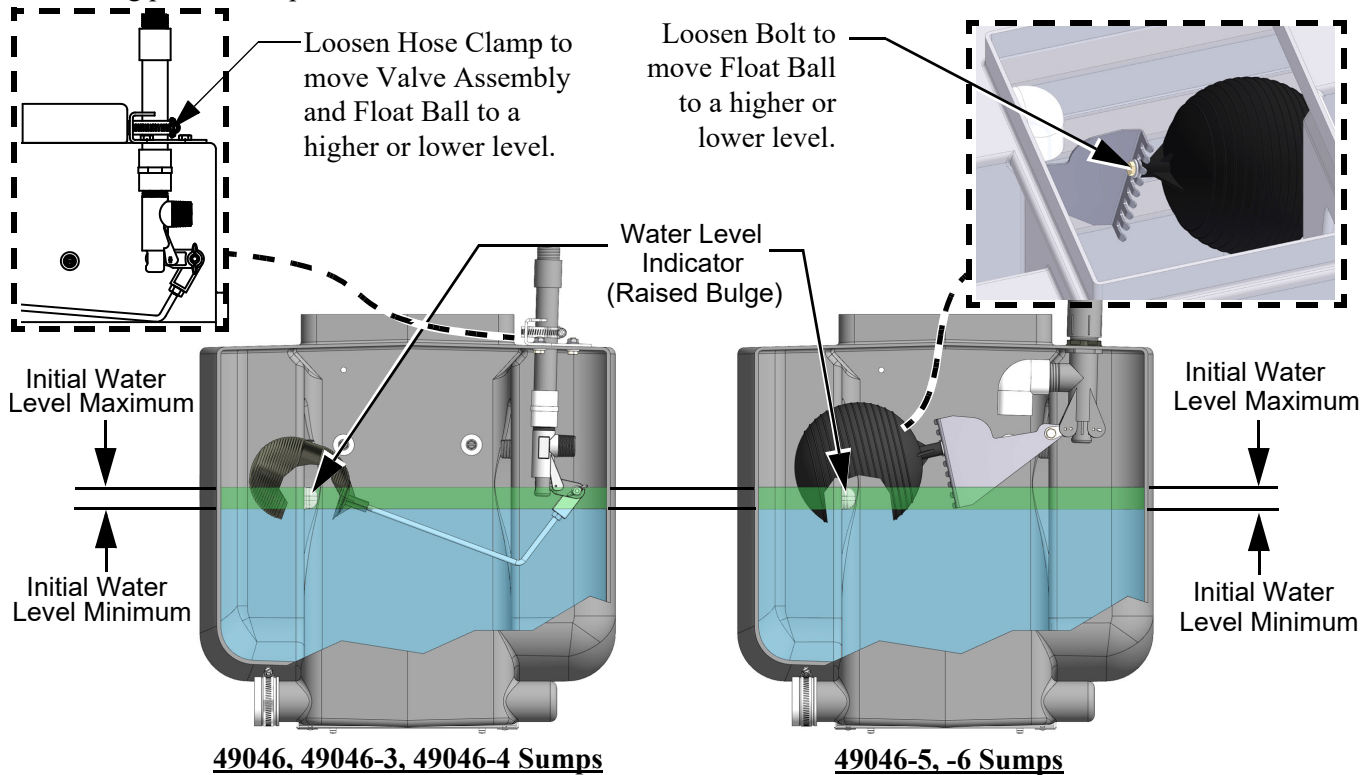

Figure 1. Initial Water Level
- Set the Initial Water Level using the Water Level indicator (Raised bulge in Sump) as shown below (**See Figure 1**).